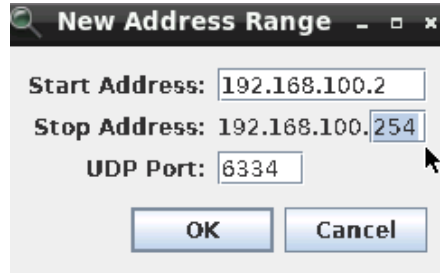

Figure 6-18. Edit Address Ranges Dialog Box
2. Click **Add** to add a new subnet or range or **Edit** to modify an existing range (see Figure 6-18).